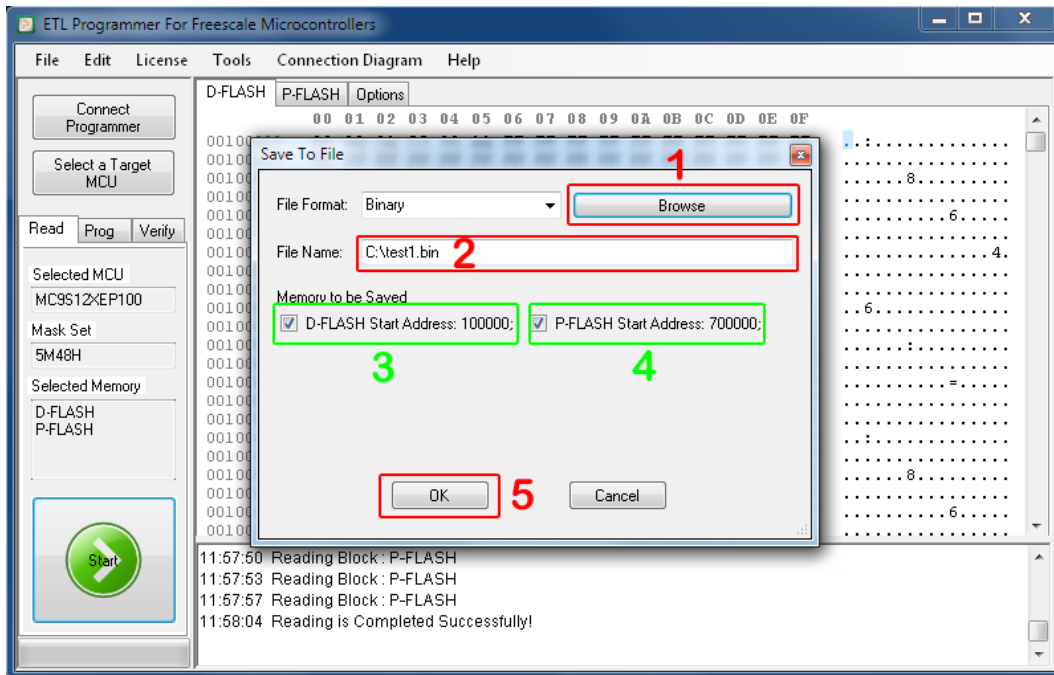

Figure 25 Select all memory blocks and save to file
- It is a wise idea to do a complete backup of the MCU, save all memory areas “Data-FLASH” and “Program-FLASH”. It gives a possibility to recover MCU integrity at any time. Select 'D-FLASH' and 'P-FLASH' checkbox marked green. Browse the file name to store data and press "OK" button (Figure 25). From this point on, it is safe to modify D-FLASH or P-FLASH.